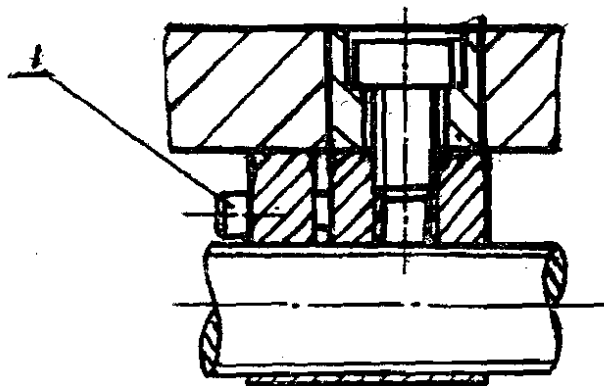

Fig. 18 Adjust the clearance of cross feed nut
- * The handwheel (12) is used to feed or retreat the quill. Turning the handwheel in counter-clockwise until a full stop is reached will automatically eject the tool being used.
- * The tailstock clamp lever (13) locks the tailstock to the bedway. To lock, put the lever up. To release, put it down.
- * The quill lock lever (15) prevent the quill from moving. Before operating the handwheel (12), release the lever. Feeding the quill to desired position. Lock it.
- * Two set screws (14) on either side of the base is used to offset the tailstock. After taper adjustment is made, retighten both screws.
5. See the Fig. 18. Adjust the clearance of cross feed nuts on the saddle as